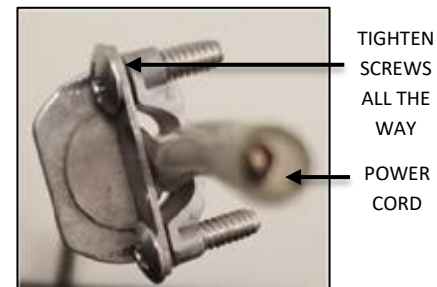

FIG. 29 – STRAIN RELIEF WITH CORD INSERTED
- Insert CORD through the STRAIN RELIEF and tighten two SCREWS on the STRAIN RELIEF above the all-thread where marked. If screws are not properly tightened CORD could slip; through the STRAIN RELIEF, causing the fixture to fall. see detail as shown in FIG.29.